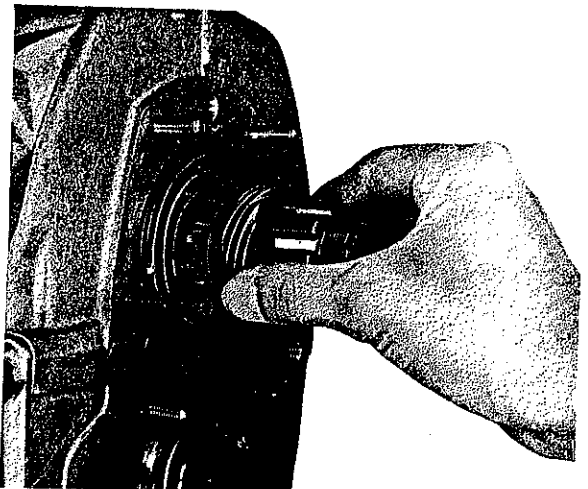

Fig. 52
2. Attach tachometer worm as shown in Fig. 52 and press also with bushing .9. up to stop on inner race.